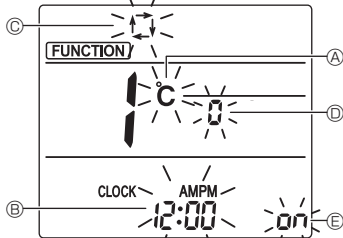

Fig. 6-6
1. Press the **POWER** button ① to stop the air conditioner.
2. Press the **MENU** button ②.
3. Check that function No. "1" is displayed, and then press the **SET** button ③.
4. Press the **UP/DOWN** button ④ to change the function No.
6.9.2. Changing the temperature unit (Fig. 6-6 Ⓐ)
- Press the **TEMP** button ⑤.
- Each time the **TEMP** button ⑤ is pressed, the setting switches between **°C** and **°F**.
6.9.3. Changing the time display (Fig. 6-6 Ⓑ)
- Press the **TIME** button ⑥.
- Each time the **TIME** button ⑥ is pressed, the setting switches between **12:00** and **24:00**.
6.9.4. Changing the AUTO mode (Fig. 6-6 Ⓒ)
- Press the **MODE** button ⑦.
- Each time the **MODE** button ⑦ is pressed, the setting switches between **1** and **2**.
6.9.5. Changing the pair No. (Fig. 6-6 Ⓓ)
- Press the **UP/DOWN** button ④.
- Each time the **UP/DOWN** button ④ is pressed, the pair No. 0-3 changes.